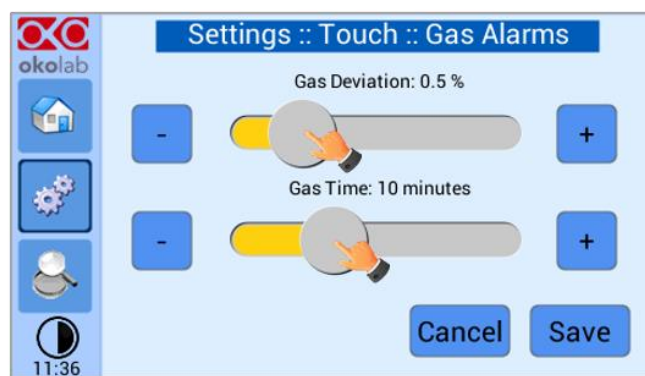

Figure 53. How to set the Deviation and Time Alarm
2. Insert the Gas Deviation, see Figure 53. This value defines the allowed tolerance form the set point.
3. Insert the Gas Time; i.e. the time for which the CO₂ composition may remain outside the allowed tolerance before the controller triggers in alarm, see in Figure 53
Figure 53. In this example the following settings are displayed (valid only after the system has reached its stationary state): if the Gas Deviation from set point is 0.5% or greater (i.e. if set point gas is 5.0% and the composition reaches a value equal or less than 4.5% or equal or more than 5.5%) for a period of time equal or longer than 10 minutes (“Temp time” set in this example) then the system triggers an Alarm.